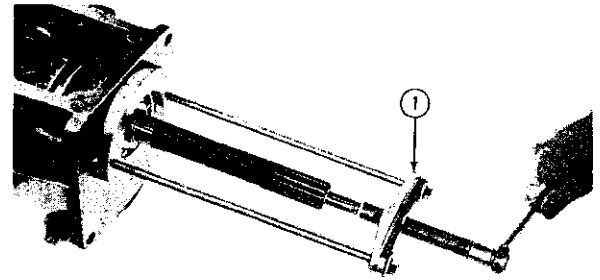

FIG. J-16—REMOVING MAIN DRIVE GEAR BEARING
- f. Remove the main drive gear and mainshaft bearings using bearing puller set W-329. Refer to Figs. J-16 and J-17.